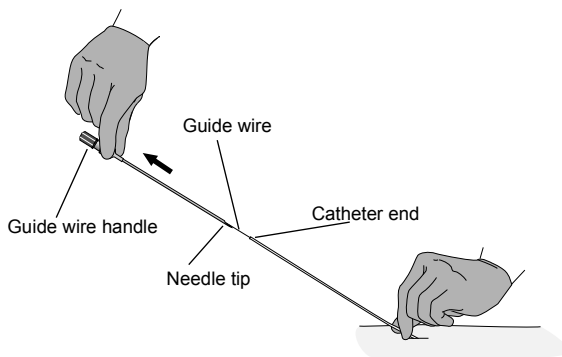

Figure 4. Removing the needle and guide wire.
14. Hold the catheter securely at the spinal exit site and remove the needle and guide wire from the catheter simultaneously (Figure 4).